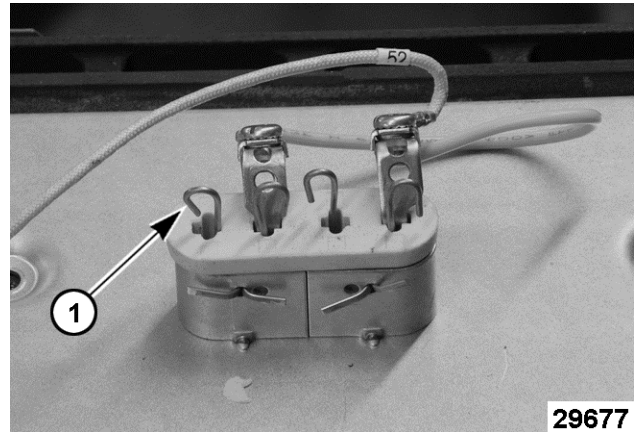

Fig. 24
5. Bend hooks inward slightly (1, Fig. 24) then remove electrical connections.